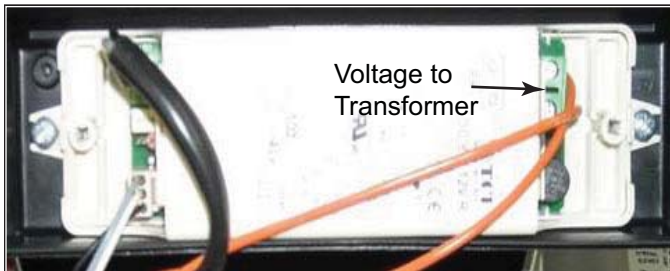

Figure 4-4. Light Transformer
- Disconnect two pin connector or screws with two orange wires to Transformer. Measure voltage between two pins or wires on Power Board side of connector. Voltage should be 115 VAC. (See Figure 4-4)